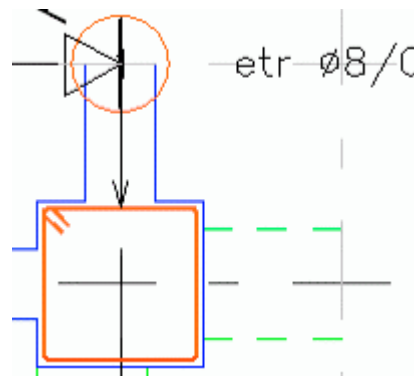

Figure 350: Placing the symbol
3. Place the symbol as shown in Figure 350.